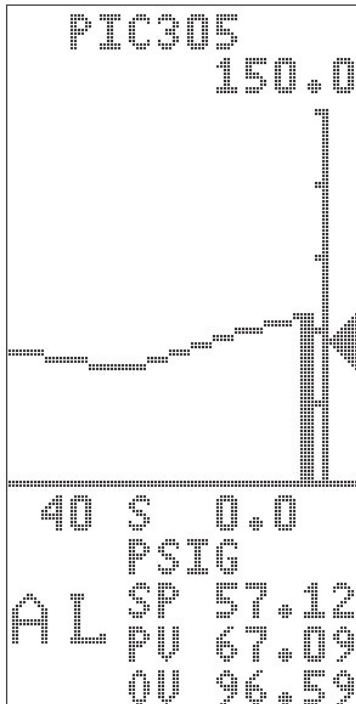

Figure 4: Single Loop with PV Trending
Single Loop with PV Trending - This display is available for each control loop in the controller (up to four). Each control loop's alphanumeric tagname is displayed at the top of the screen. The loop Process Variable (PV) is displayed digitally (with Engineering Units), bargraph, and current trend form. The PV bargraph is displayed with a scale including the minimum and maximum range values. The setpoint (SP) is displayed digitally and as an arrow to the right of the PV scale. Alarm limits are displayed as "TIC" marks to the left of the PV bargraph when configured. When in alarm condition, the alarm line and PV bargraph flash. The output (OP) is digitally displayed. The trend displays the maximum time base in seconds or minutes. Auto/Manual and Remote/Local status indications are displayed at the bottom of the screen (see Fig. 4)